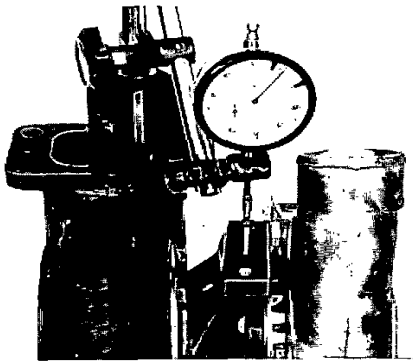

Fig. 210. Measuring radial clearance, AiResearch
2. Place a dial indicator as shown in fig. 210, so that the measuring point rests against the tool measuring attachment.